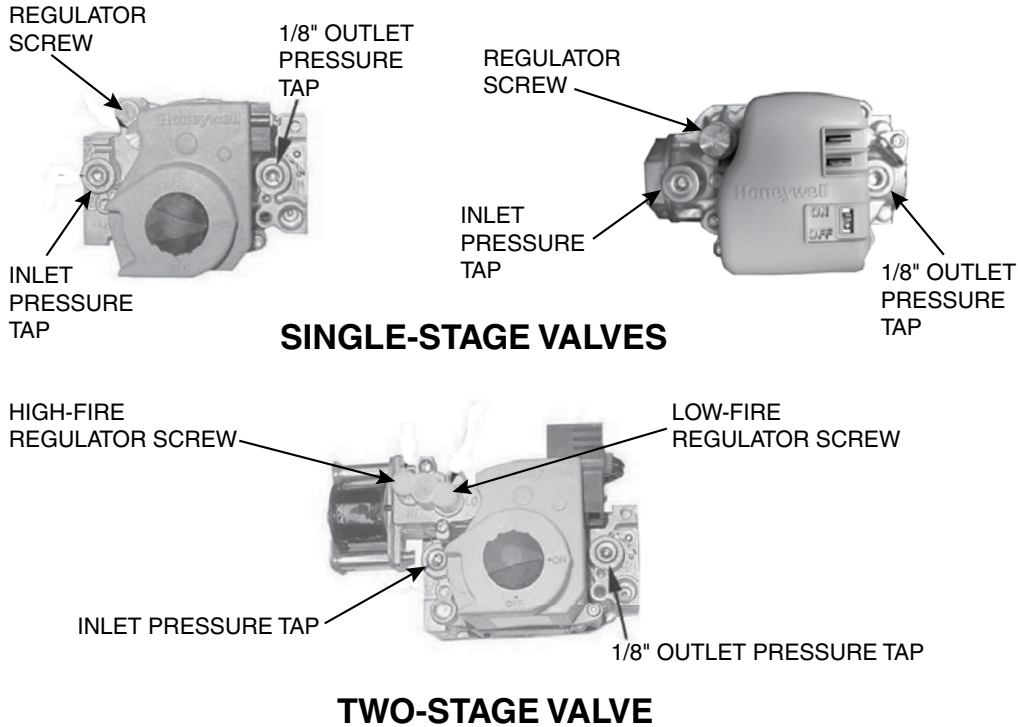

Figure 15. Gas Valves
2. Connect manometer to 1/8-inch output pressure tap on valve (see Figure 15).
- If manometer reading does not indicate that valve outlet pressure is in accordance with Table 21, remove cap from regulator screw(s) (see Figure 15) and adjust pressure by turning regulator screw IN (clockwise) to increase pressure or OUT (counterclockwise) to decrease pressure.
4. Connect manometer to 1/8-inch output pressure tap on valve (see Figure 15).
- b. Remove cap from regulator screw (see Figure 15) and adjust pressure in accordance with Table 21 by turning regulator screw IN (clockwise) to increase pressure or OUT (counterclockwise) to decrease pressure.
- b. Remove cap from low-fire regulator screw (see Figure 15) and adjust pressure in accordance with Table 21 by turning regulator screw IN (clockwise) to increase pressure or OUT (counterclockwise) to decrease pressure.
10. Connect manometer to inlet pressure tap (see Figure 15). While heater is operating, measure inlet pressure, which should be between 5 and 13.5 IN WC for natural gas or between 11 and 13.5 IN WC for propane.